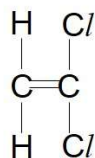

Fig 9.2
- (c) The structural formula of dichloroethene is shown in **Fig. 9.2**.